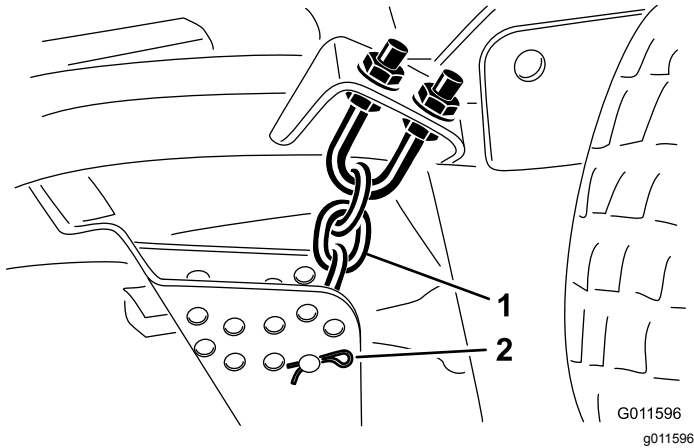

Figure 20
- Remove the hairpin cotter and clevis pin securing the height-of-cut chains to the rear of the cutting unit (Figure 20).